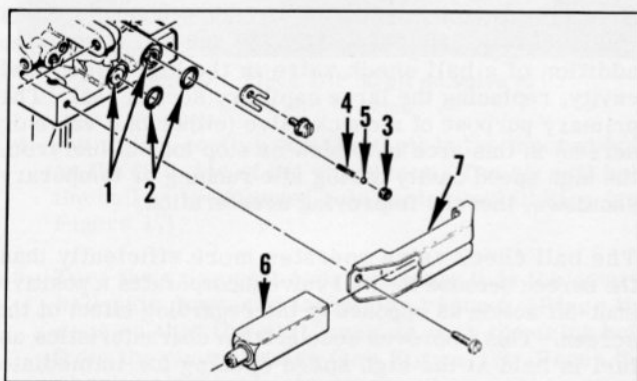

Figure 11. Primer Assembly
The primer assembly (see Figure 11) may be removed from the carburetor allowing carburetor passages (1) to be cleaned, inspection or replacement of "O" rings, (2) check valve, (3) spring, (4) ball, (5) valve body, (6) or mounting bracket, (7) inspect each part carefully; replace any part that inspection proves to be doubtful.